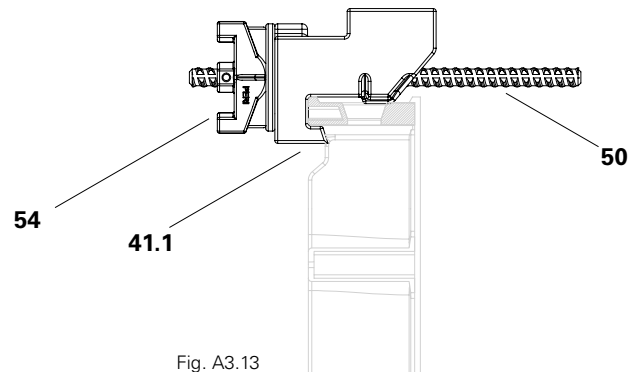

Fig. A3.13
3. Tighten the tie rod with the DW 15 wingnut counterplate (**54**). (Fig. A3.13 + A3.13c)